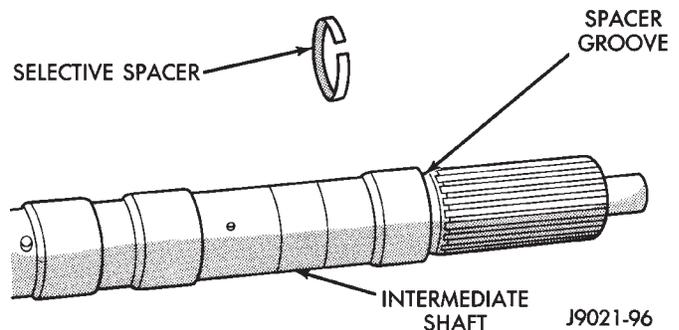

Fig. 60 Intermediate Shaft Selective Spacer Location
(6) Install selective spacer on intermediate shaft, if removed. Spacer goes in groove just rearward of shaft rear splines (Fig. 60).